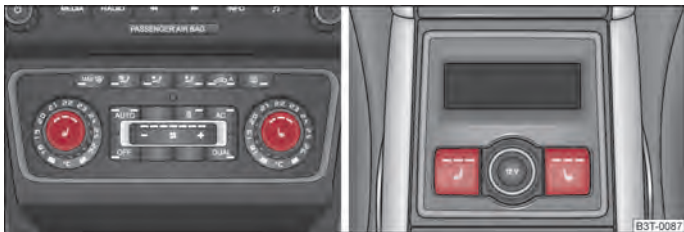

Fig. 64 Dash panel: Regulator for heating the front seats/rear seats
- You can switch on and regulate the seat heating of the driver or front passenger seat by pressing the surface of the regulator at the point at which the symbol is located ⇒ fig. 64 - left.
- You can switch on and adjust the heaters of the left or right rear seats by pressing the regulator ⇒ fig. 64 - right.